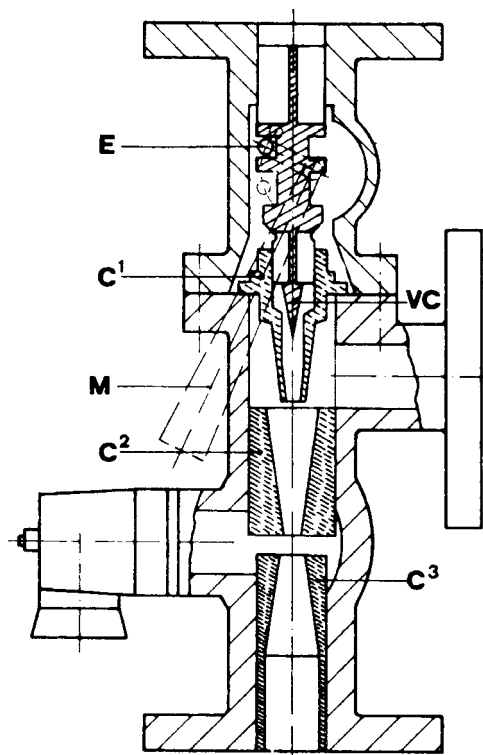

Fig. 8
Fig. 8 illustrates the two convergent cones, (C^1) and (C^2), in which the steam passes at a progressively increasing speed, adjusted on taper valve (VC) which is operated by unit (M) and cam (E). Because of its high flow rate, the steam creates a vacuum in the chamber between cones (C^1) and (C^2). This vacuum sucks the water from the feed tank so that it mixes with the steam, which then largely condensates, after which the water-steam mixture passes into divergent cone (C^3), where it loses speed but retains pressure.